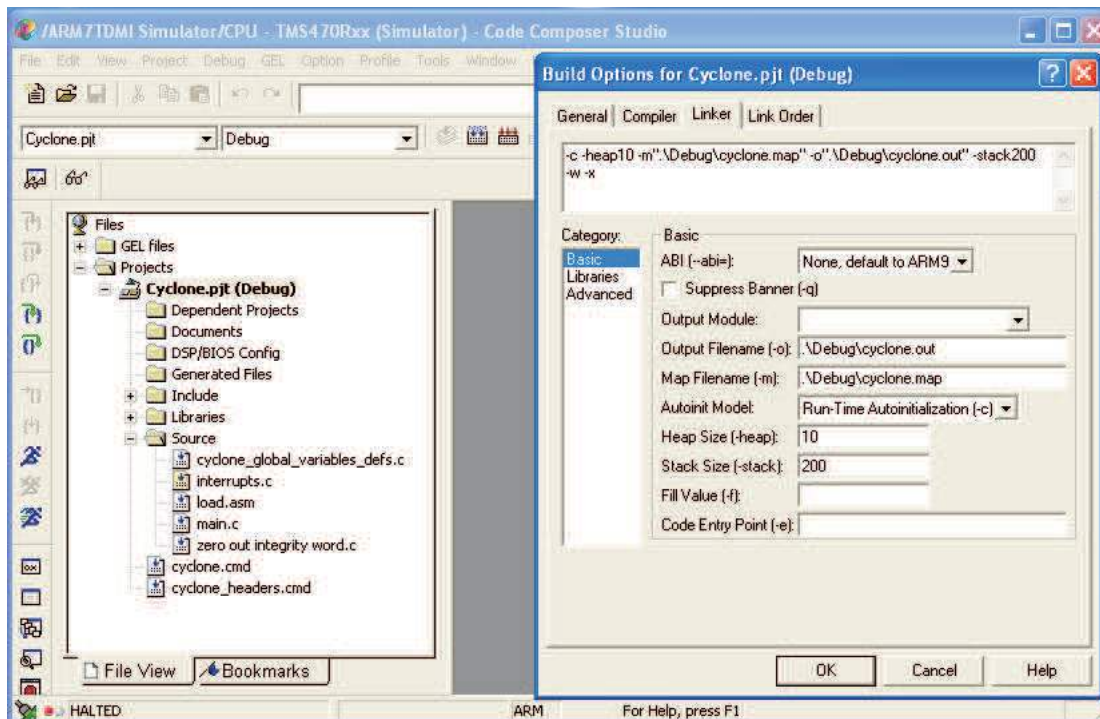

Figure 16. Open a Project File with Example of Cyclone.pjt – Build Options and Linker Tab
3. From CCS project window, Right click on *Cyclone.pjt (Debug)* and then select *Build Options*. The window shown in Figure 16 appears when the *Linker* tab is selected.
- Figure 16 shows the project *Build Options* have been selected to create the file *Cyclone.out* from CCS.